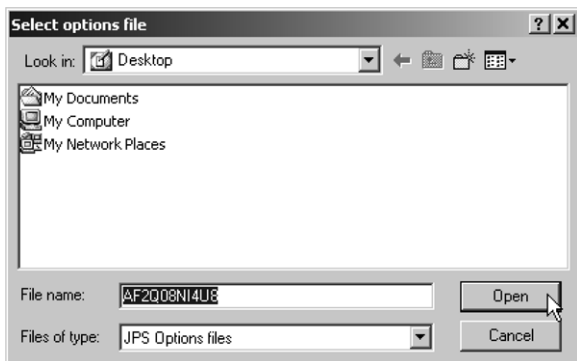

Figure 4-15. Load OAF
3. Navigate to the location of the new Option Authorized File. OAFs have .jpo or .tpo extensions and are unique to each receiver (Figure 4-15).
4. Select the appropriate file and click **Open** (Figure 4-15). The new OAF will load onto the receiver and the Option Manager table will update.